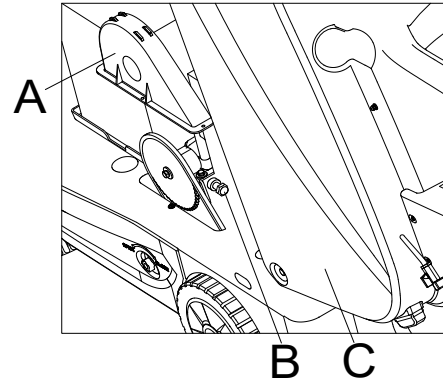

Figure 41
5. When the rear wheel is loose, open the cover (C, Figure 41) and the wheel chain cover (A, Figure 41), adjust the wheel chain adjusting screw (B, Figure 41) to make sure the wheel chain is of proper tightness.